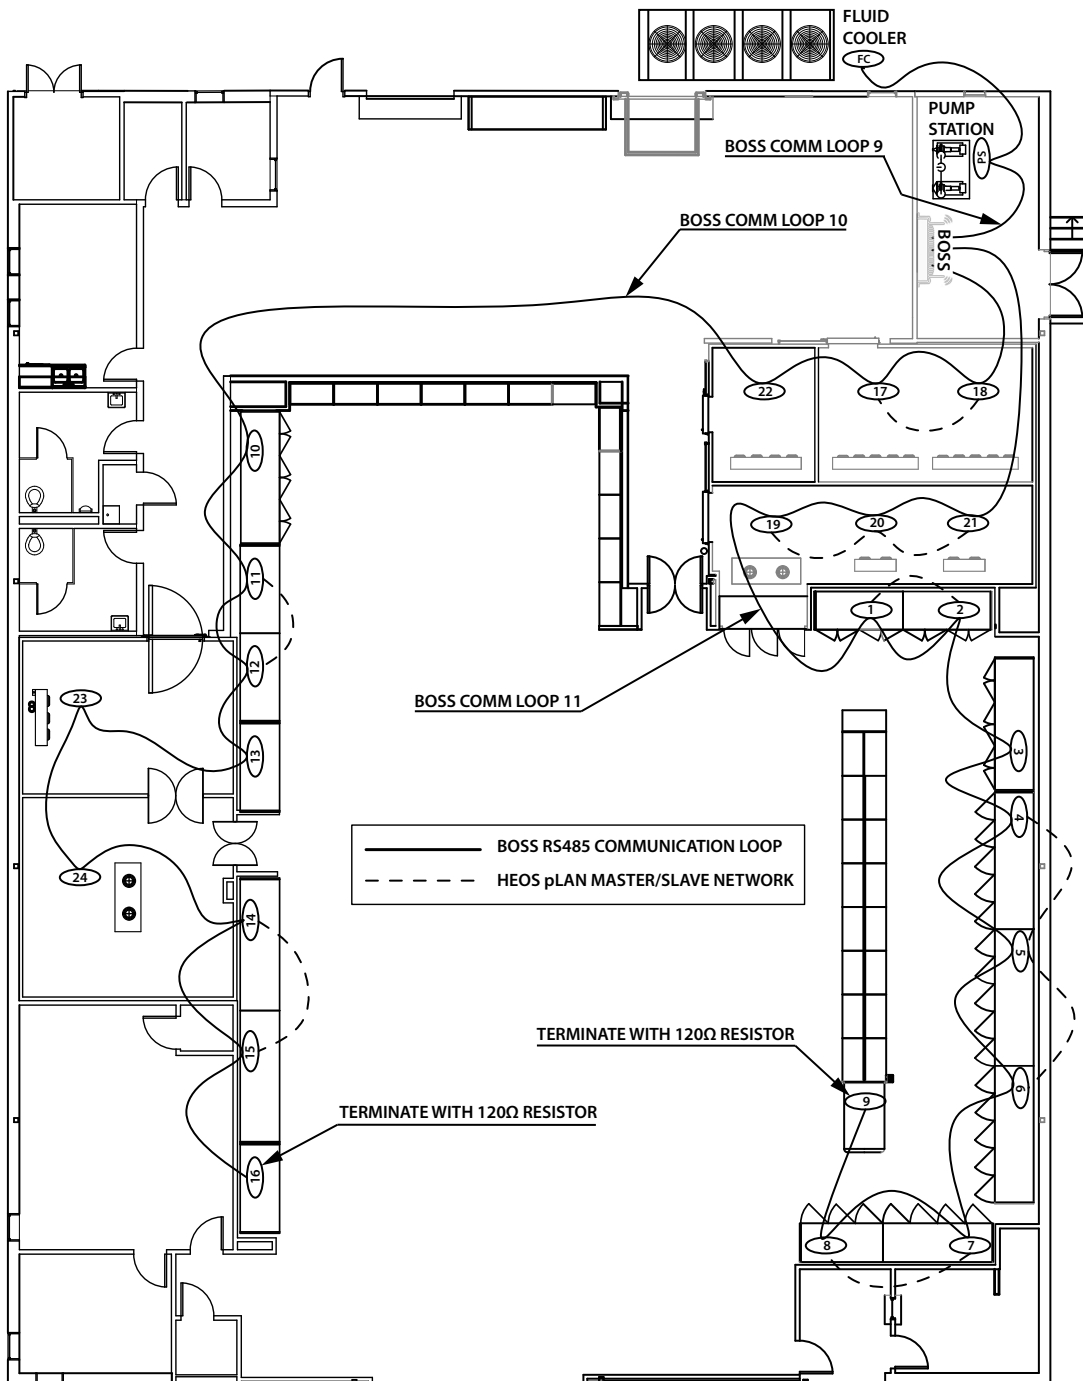

Fig. 30 RS485 and pLAN Communication Layout Example
- d. Communication Loop Layout and Serial Addressing – provided that the rules above are followed, the designer has discretion in the order, numbering and identification of loop layout and address schedule but Hillphoenix recommends the follow guidelines in order to maintain consistent and standardized designs which can help reduce time required to set up the system and avoid errors during implementation. See Figures 30 and 31 for examples of a Communication Loop Layout and Serial Addressing Schedule.